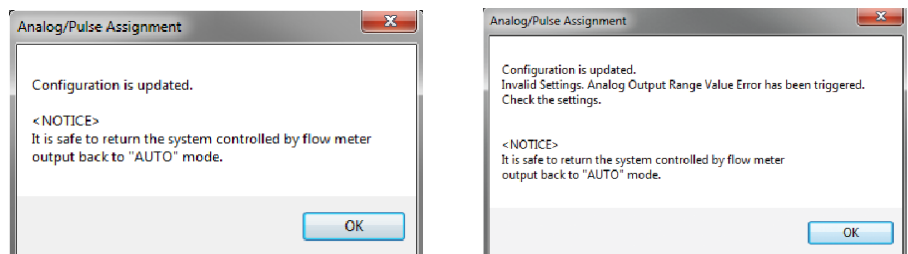

Figure 2.4—Configuration Updated notice (left) and Range Value Error notice (right)
- When the configuration change has been applied successfully, a *Configuration Updated* notice (Figure 2.4, left) will appear. Click **OK** to acknowledge.
**Note** If changes to the analog/pulse assignment result in out-of-range analog/pulse output(s), the transmitter will detect the Range Value Error. In this case, the notice will indicate the Range Value Error (Figure 2.4, right). Review and correct the configuration to eliminate the error condition.